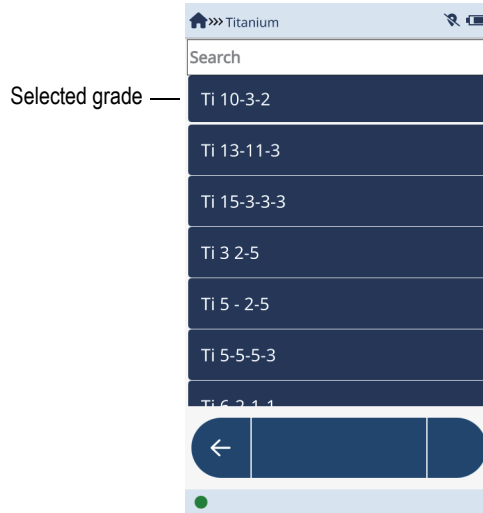

Figure 2-61 Element grade screen
- On the next screen, tap an element grade (see Figure 2-61 on page 77).